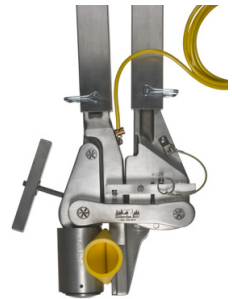

Fig 8
8. Close the handles until the tool goes over center and the flow is controlled. (*Fig 8*)